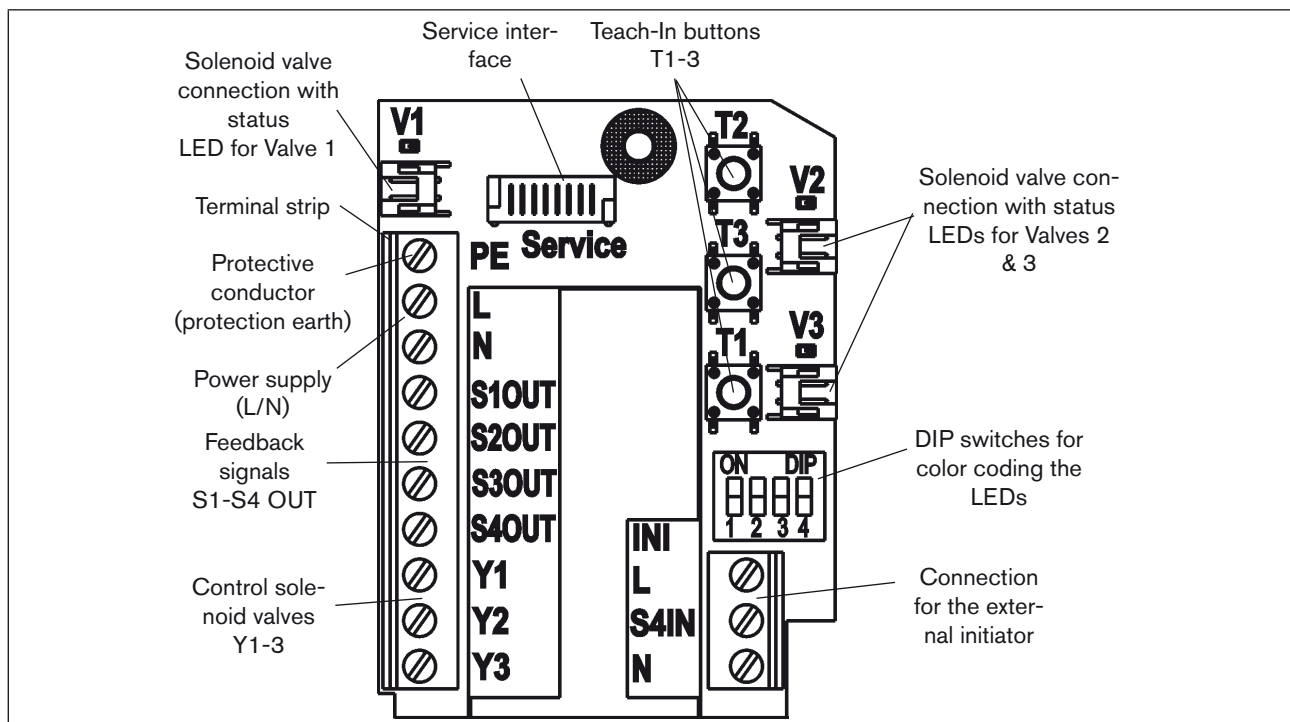

Fig. 25: 120 V AC electronics module
- Connect the wires to the connection terminals according to the pin assignment described in *Fig. 25: 120 V AC electronics module*. If necessary, secure the cable with a cable clip!.
An external initiator can be connected using the small 3-pin screw terminal - according to the respective design - (see e.g. Fig. 25 and the respective chapter "Electrical Installation").